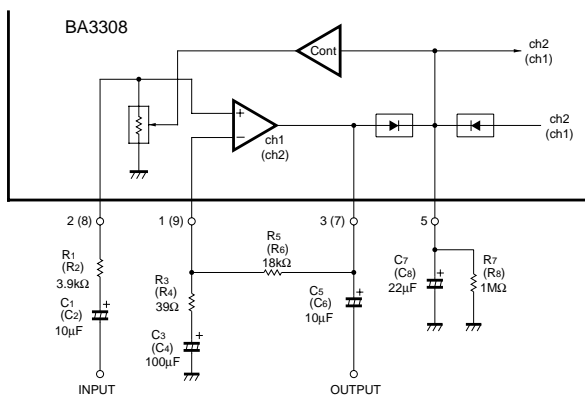

Fig.5
1) Recording amplifier (See Fig.5)